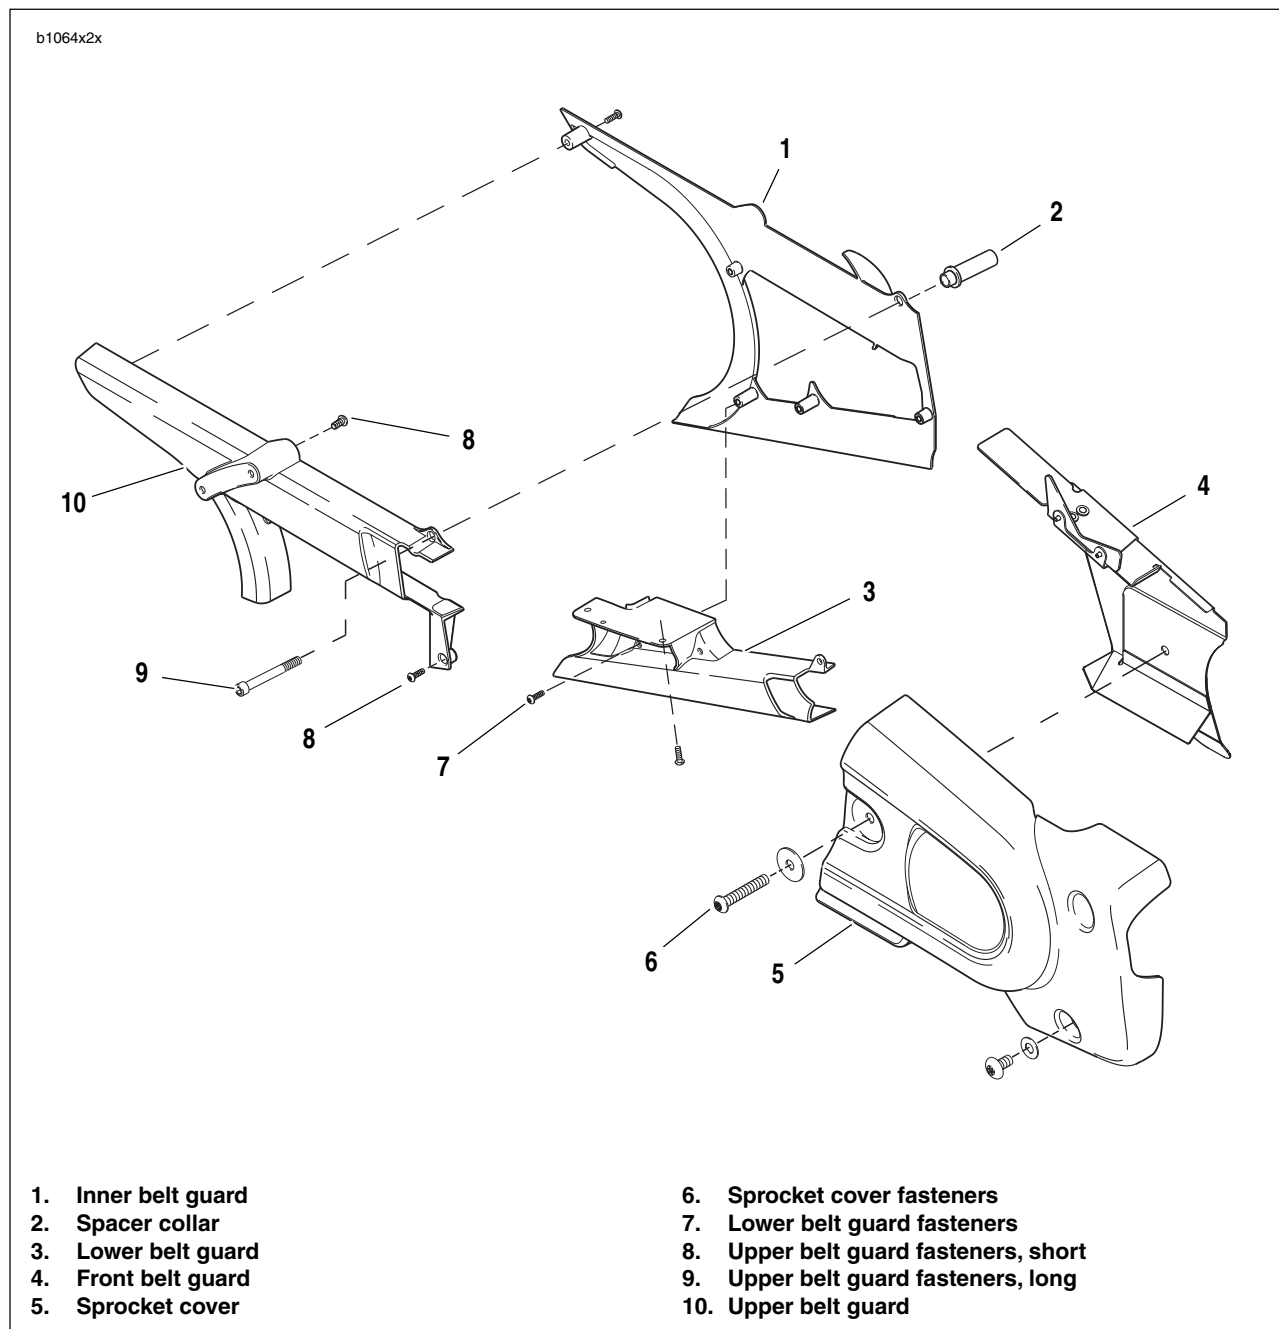
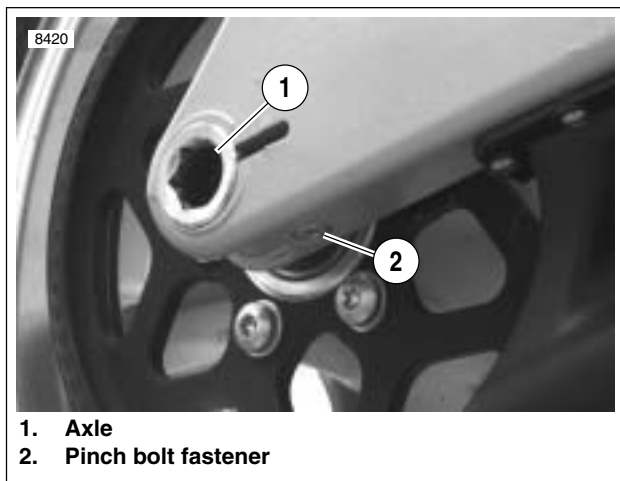

Figure 1-40. Belt Guard Assembly
Figure 1-41. Rear Wheel Mounting, Right Side
5. See Figure 1-40. Remove front sprocket cover (5) by removing fasteners. See 2.31 SPROCKET COVER.
6. See Figure 1-41. Loosen rear axle pinch fastener (2).
7. Loosen rear axle (1) approximately 15 rotations to allow partial tension to be removed from rear drive system.
9. See Figure 1-40. Remove lower belt guard (3) by removing fasteners (6).
10. Remove upper belt guard (10) by removing fasteners (7).
2. See Figure 1-40. Install upper belt guard (10) to swingarm brace tightening fasteners (9) to 12-36 **in-lbs** (1-4 Nm).
- a. Position the inner belt guard (1) and upper belt guard (10) onto swingarm.
- b. Install fastener (8) and spacer collar (2) between upper belt guard (10), inner belt guard (1) and swingarm brace.
4. Install upper belt guard (10) and tighten fasteners (7) to 12-36 **in-lbs** (1-4 Nm).
6. Install lower belt guard (3) and tighten fasteners (6) to 12-36 **in-lbs** (1-4 Nm).
8. See Figure 1-41. Tighten rear axle (1) to 48-52 ft-lbs (65-70 Nm).
9. Tighten rear axle pinch fastener (2) to 40-45 ft-lbs (54-61 Nm).
11. See Figure 1-40. Install front sprocket cover (5) by tightening fasteners to 12-36 **in-lbs** (1-4 Nm). See 2.31 SPROCKET COVER.